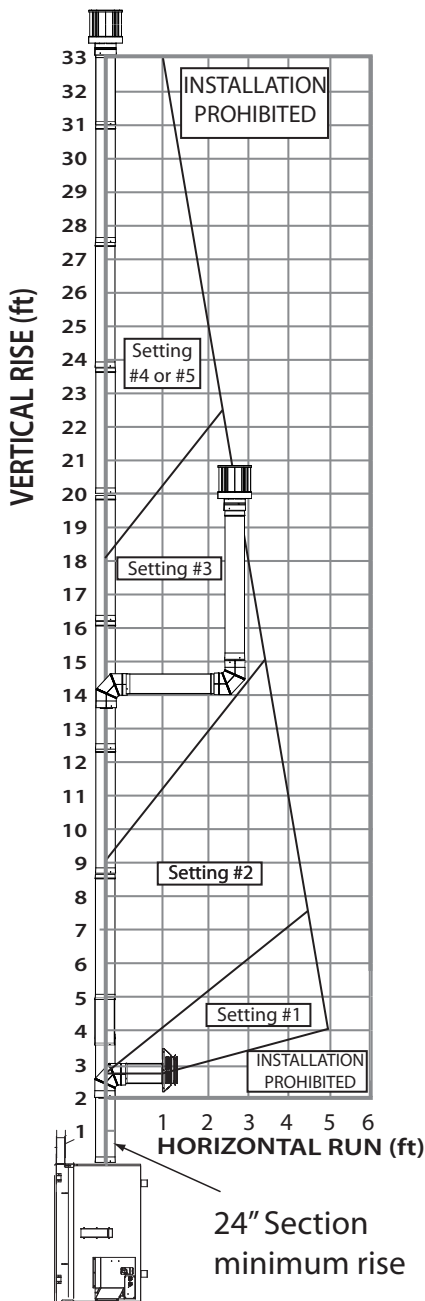
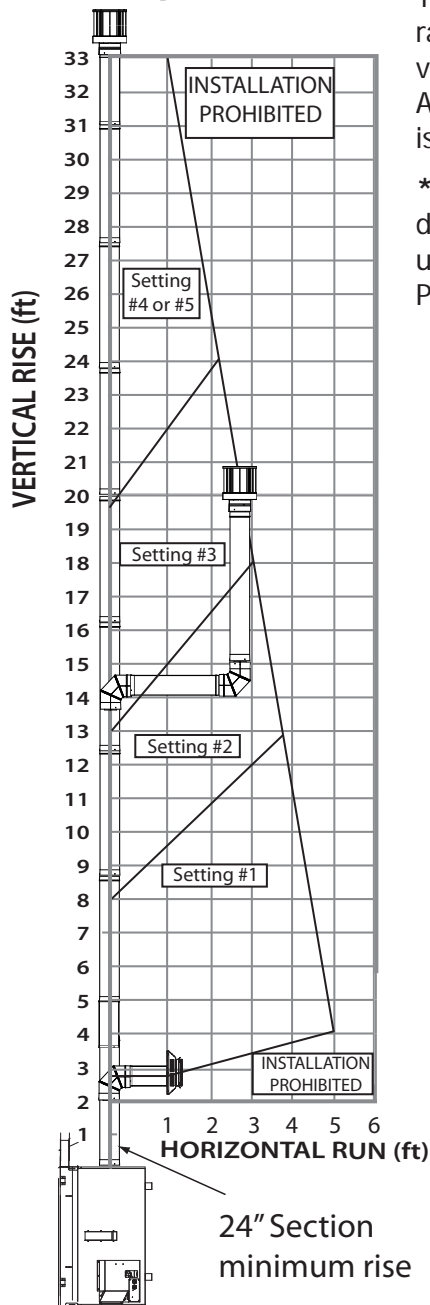

Figure 65: 8" x 11" NG Vent Graph
Figure 66: 8" x 11" LP Vent Graph
**\*Note:** Be sure to use the proper diagram depending on if your unit uses Natural Gas (Figure 65) or Propane (Figure 66).